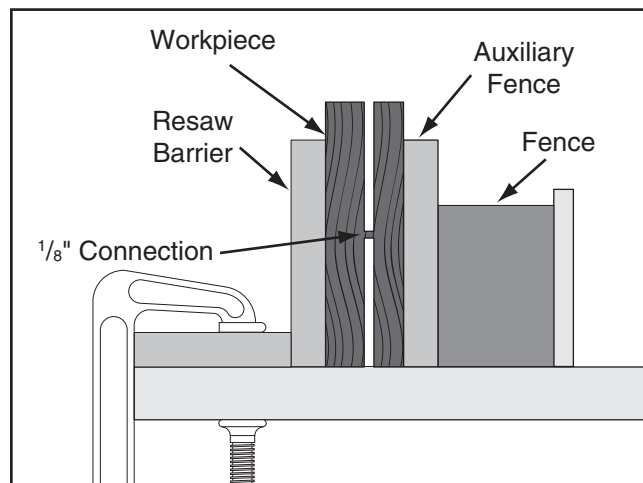

Figure 75. Ideal completed resaw cut.
- Raise the blade approximately an inch, or close to half the height of the workpiece (**Figure 75**), whichever is less.
- Repeat **Steps 7–9** until the blade is close to half of the height of the board to be resawn. The ideal completed resaw cut will leave an $\frac{1}{8}$ " connection when the resawing is complete, as shown in **Figure 75**. Leaving an $\frac{1}{8}$ " connection will reduce the risk of kickback.